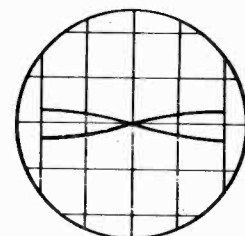

FIG. 2
- 11.—Check the alignment of the IF and detector circuits by varying the signal generator frequency above and below the center frequency of 10.7 Mc. If the receiver is perfectly aligned, two smaller "X" patterns of similar size and shape will result, one on either side of the center frequency. See figure 2.